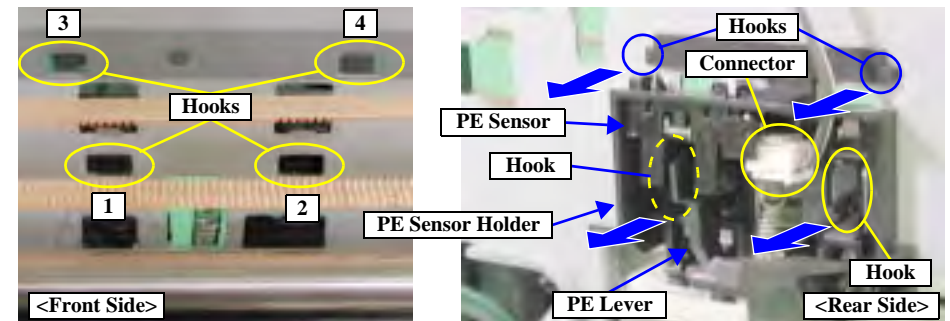

Figure 4-56. PE Sensor/PE Sensor Holder/PE Lever Removal 1
3. While lifting PE Sensor Holder upwards, use a suitable tool to release 4 hooks holding the PE Sensor Holder starting from the upper direction of the printer by following the order shown in Figure 4-56. Then remove the PE Sensor and PE Lever along with the PE Sensor Holder.